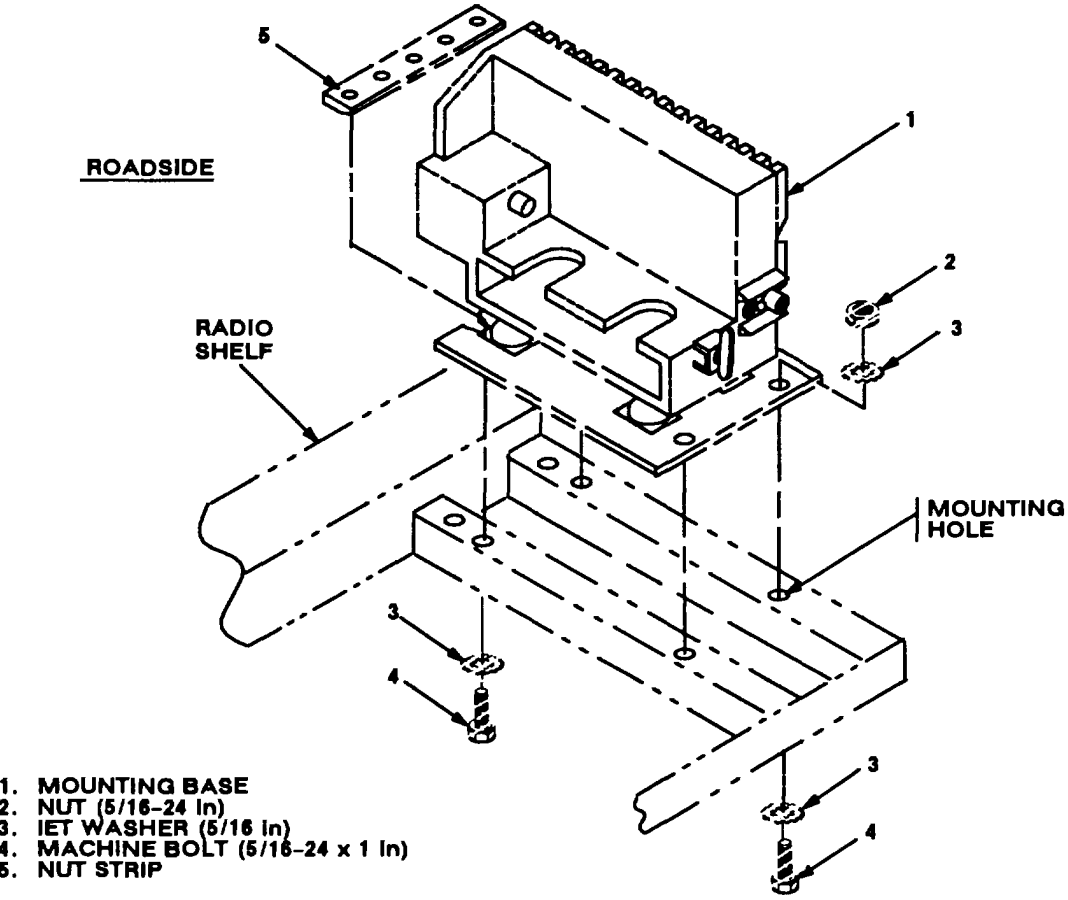

Figure 5-11. MT-6353/VRC Mounting Base Installation
a. MT-6353/VRC mounting base (1).	Place radio shelf over existing holes. See figure 5-11..